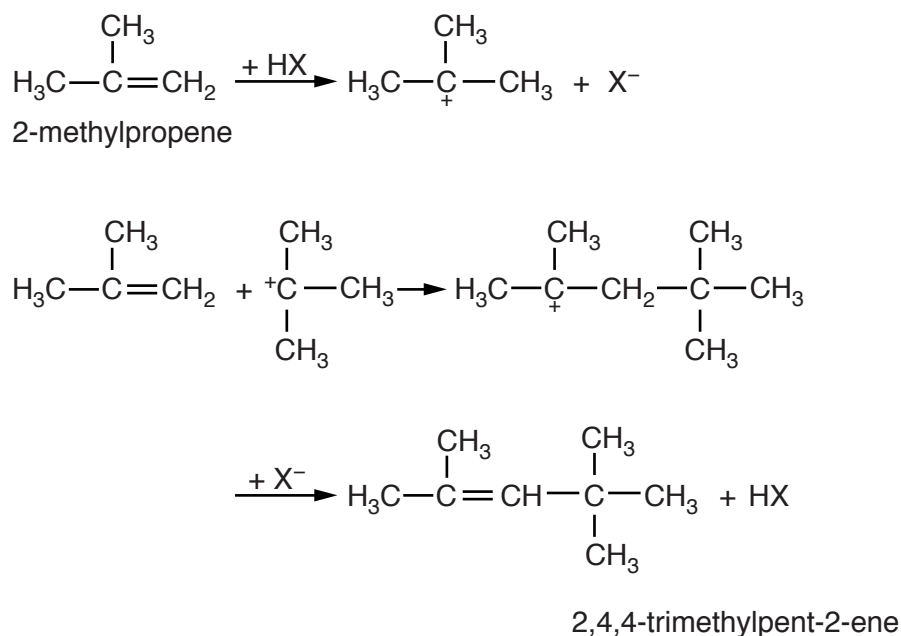

Fig. 2 Part of a mechanism for the formation of 2,4,4-trimethylpent-2-ene from 2-methylpropene
(c) **Fig. 2** shows part of a reaction mechanism.
(i) Name the type of organic ion that is produced from 2-methylpropene in **Fig. 2**.
(ii) Give the atom economy for the overall reaction sequence shown in **Fig. 2**.
- The mechanism of the reaction also involves the addition of a hydrogen ion, from aqueous sulfuric acid, to a reactant (**Fig. 2**).